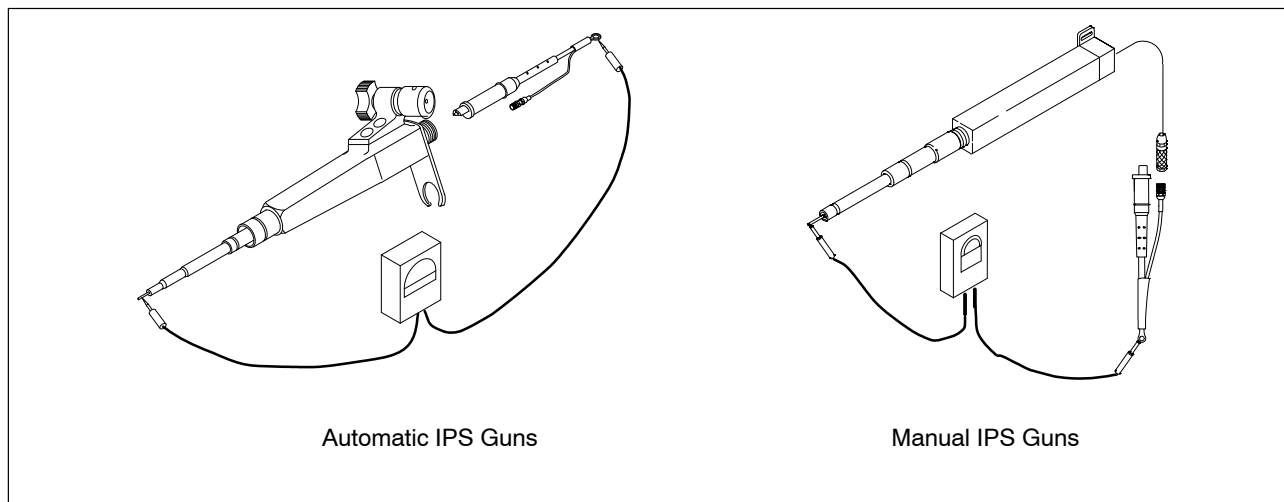

Figure 6 Using a Shorting Plug to Check Voltage Multiplier Resistance
**CAUTION:** Refer to Figure 6. Always use a shorting plug when checking voltage multiplier resistance. If this test is not done correctly, you could damage the voltage multiplier.